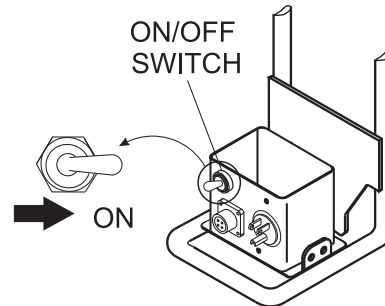

Figure 15. Power OFF/ON Switch (ON Position)
6. If the balloon is fully deployed, place the GloBug Solo's ON/OFF switch in the **ON** position (Figure 15).